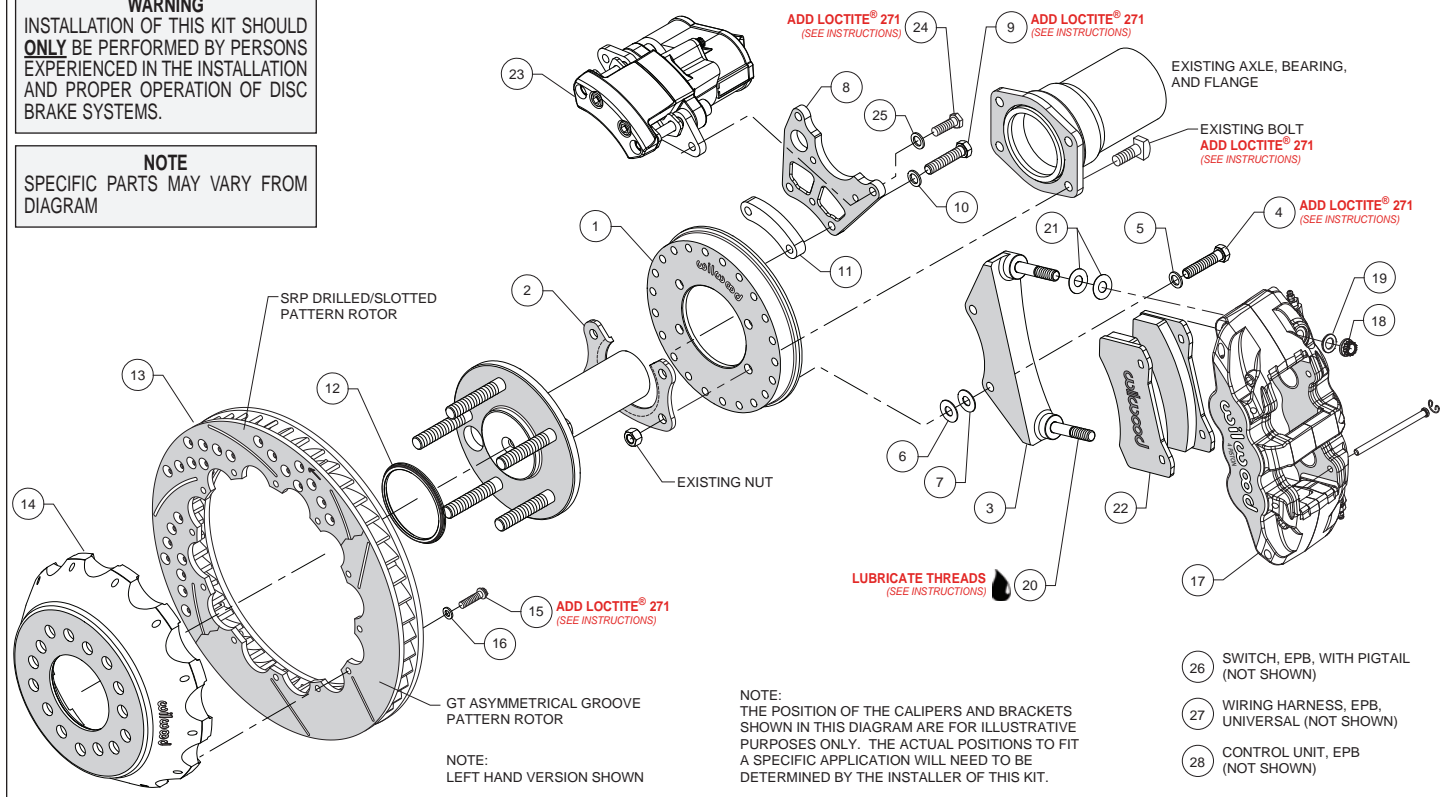
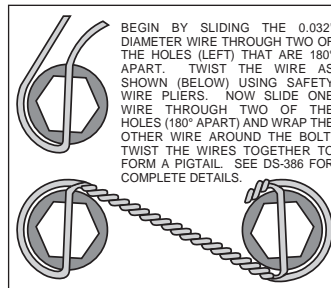

Figure 1. Typical Installation Configuration
Figure 5. Safety Wire Diagram
(numbers in parenthesis refer to the parts list, and Figure 1 on the preceding pages):
- Orient the backing plate (1) as shown in Figure 1 and Photo 1, and slide it onto the axle housing flange. Ensure the backing plate fits flush against the axle housing flange. Reinstall the axle into the axle housing.
- Install the bearing retainer (2) with the opening pointing upward and the lip facing inward (toward the bearing), as shown in Figures 1 and 4, and Photo 2. Secure retainer and backing plate to the axle housing flange using the Original Equipment Manufacturer (OEM) bolts and nuts, Figure 1 and Photo 3. Apply red *Loctite*® 271 to the OEM bolt threads and torque to OEM specifications.
- Start by determining the best location for the service caliper (17). This caliper is usually mounted in the 3:00 or 9:00 o'clock position, but may be rotated up or down approximately 45 degrees and still allow for proper bleeding, Photo 4. Orient the service caliper bracket (3) as shown in Figure 1 and Photo 5, and install to the backing plate (1) in the desired location using bolts (4) and washers (5). Temporarily tighten bolts. Next, mount the service caliper onto the bracket. Lubricate the caliper mounting studs (20) with lightweight oil. Mount the service caliper using lock nuts (18) and washers (19), Figure 1. Temporarily tighten the lock nuts. Check that the caliper (including inlet fitting and hose) has sufficient clearance to all surrounding components through the full suspension travel. Relocate the caliper/bracket on the backing plate as needed to ensure proper clearance is achieved.
- Determine the best location for the EPB caliper (23). **NOTE:** *The EPB caliper motor extends farther inboard than the service caliper and therefore needs additional consideration when determining a mounting location with sufficient clearance.* In the example application shown in Photo 6, the EPB caliper has sufficient inboard clearance to the leaf spring. However, if the EPB caliper were mounted closer to the 12:00 o'clock position, the inner body of the vehicle would hit the caliper during full compression of the suspension.
•Orient the EPB caliper bracket (8) as shown in Figure 1 and Photo 7, and install to the backing plate (1) in the desired location using bolts (9), washers (10), and spacer (11). Temporarily tighten bolts. **NOTE:** The EPB bracket is reversible. In one direction the bracket will position the EPB caliper closer to the service caliper, and vice versa if reversing the bracket. Next, mount the EPB caliper (23) to the bracket using bolts (24) and washers (25). Temporarily tighten bolts. **NOTE:** EPB calipers are Left and Right handed, however they can be used on either side of the vehicle to best suit your specific application. Check that the EPB caliper (including wiring harness connector) has sufficient clearance to all surrounding components through the full suspension travel. Relocate the EPB caliper/bracket on the backing plate as needed to ensure proper clearance is achieved.
•Once the caliper positions have been determined, remove both the service (17) and EPB (23) calipers, leaving both brackets in place on the backing plate. For the EPB bracket, remove the bolts one at a time, apply red Loctite® 271 to the threads, and torque to 35 ft-lb. The service caliper bracket will be final installed after shimming is determined.
•Orient the rotor (13) and the hat (14) as shown in Figure 1 and Photo 8. Attach rotor to hat using bolts (15) and washers (16). Using an alternating sequence, apply red Loctite® 271 to the threads, and torque to 155 **in-lbs**. For an added measure of security, the bolts may be safety wired using standard 0.032 inch diameter stainless steel safety wire as shown in Figure 5. Please refer to Wilwood's data sheet DS-386 (available at www.wilwood.com/Pdf/DataSheets/ds386.pdf) for complete safety wire installation instructions.
•Initially place two .030" thick shims (21) on each stud of the service caliper bracket (3), as shown in Figure 1 and Photo 10. Mount the caliper onto the bracket using lock nuts (18) and washers (19), Figure 1. Temporarily tighten the lock nuts and view the rotor through the top opening of the caliper. The rotor should be centered in the caliper, Photo 11. If not, adjust by adding or subtracting shims (6 and/or 7) between the service caliper bracket (3) and the backing plate (1). Always use the same amount of shims on each of the two mounting bolts. Once the caliper alignment is correct, remove the bracket mounting bolts (4) one at a time, apply red Loctite® 271 to the threads, and torque bolts to 35 ft-lb.
- Remove the service caliper (17), then remove the two pad retaining pins from the caliper by carefully popping out the pin retaining clips and sliding out the pins. Insert the brake pads (22) into the caliper from the bottom, Figure 1 and Photo 12. With the friction material facing the rotor, secure the brake pads in place with the pad retaining pins and clips, Photo 13. Reinstall the caliper onto the mounting bracket and temporarily tighten the lock nuts. Check that the top of the brake pad is flush with the outside diameter of the rotor, Photo 14. If not, adjust by adding or subtracting shims (21) between the caliper and the bracket. After the caliper pad height is set, torque the caliper lock nuts (18) to 47 ft-lb.
- Mount the EPB caliper (23) onto the caliper mounting bracket (8) using bolts (24) and washers (25), Figure 1. Apply red *Loctite*® 271 to bolt threads, and torque to 30 ft-lb.
• **NOTE:** The service caliper (17) in this brake kit utilizes a 1/8-27 NPT pipe thread inlet. OEM rubber brake hoses generally cannot be adapted to Wilwood calipers. The preferred method is to use steel adapter fittings at the caliper, either straight, 45 or 90 degree and enough steel braided line to allow for full suspension travel. **Carefully route hoses to prevent contact with moving suspension, brake or wheel components.** **NOTE:** Wilwood hose kits are designed for use in many different vehicle applications and it is the installer's responsibility to properly route and ensure adequate clearance and retention for brake hose components. Wilwood offers universal brake flex line hose kits, domestic (3/8-24 IF) chassis fittings, order: